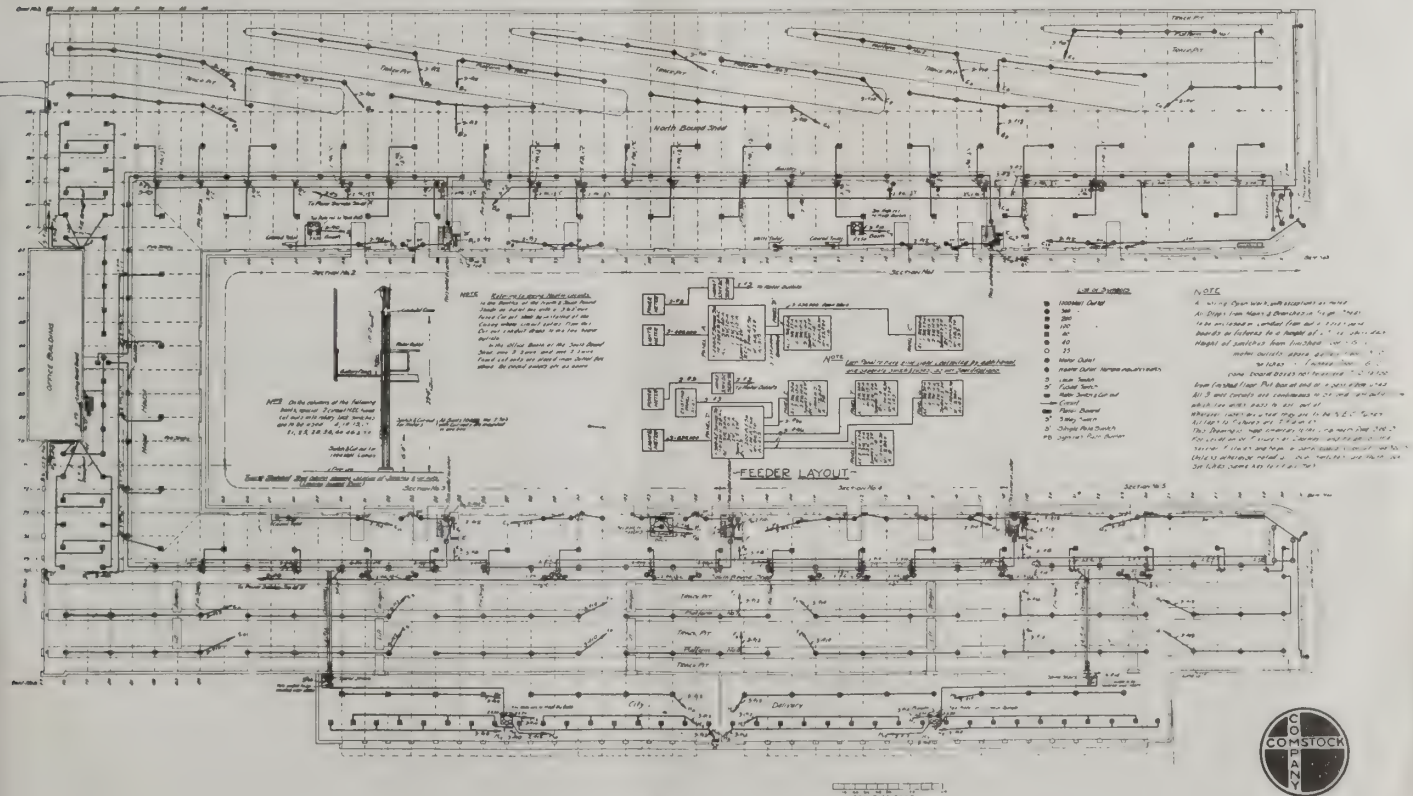

Fig. 3. Wiring Diagram
The service to the building is 110-220 volts, three-wire, sixty cycle, alternating current, for lighting; and 500 volts, two-wire direct current for power. There is very little power used in the building, provision being made for only a few small portable hoisting motors. Figure 3 shows a plan and general wiring diagram of the whole pier. The power line is shown running down each shed. At every column is located a junction box, having mounted therein a small panel with copper bar straps, and easily adjustable terminal posts. The portable outfits are provided with long extra flexible cables, which are connected permanently at one end to the motor starters and can be attached very readily to any junction box temporarily. These junction boxes are installed high up, being accessible from the gallery only, so that the flexible leads can provide quite a large radius, about which the motors may travel, without any of the conductors lying on the floor or interfering with stock or traffic. A fused knife switch, quick break type, with N. E. C. enclosed cartridge fuses, all in a cabinet, is installed on each column, accessible from the floor. This switch and fuses is connected in the line between the mains and the junction panels, so that control can be had from below, where the motor is
operated. The four wires required for the switch, i. e., the mains and leads to the motors, are all run in one conduit between the junction panelbox and the switchboard. This is clearly illustrated in the sectional elevation on the plan, Figure 3. The services are split in halves, one for each shed.
Practically all of the lighting fixtures occur at the under side of trusses, which is shown by the outlet symbols on the plan in Figure 3, the dotted cross lines representing the trusses. These fixtures are made up of conduit stems, hung on a hook and link, with an open hickey at the top. The link is used to allow the fixture to swing, as high winds often sweep the pier. The fixtures are each fitted with suitable sockets and reflectors, of types best adapted for the various cases. A solid tap is made to the circuit wires at the ceiling, to a flexible reinforced cord which is looped down to and into the fixture stem. This can be seen at the truss immediately beyond the gallery in Fig 1. The
The lighting is generally controlled from the panel-boards, except for the 1,000-w. outlets, which are controlled locally by lock switches. By referring to the plan (Fig 3), these can be easily distinguished with the aid of the list of symbols, the fused lock switches, being clearly shown at the column nearest each such outlet. A pair of N.E.C. enclosed fuse cutouts are installed in a box at the points designated. Each of the cutouts is equipped with rotary snap switch and fuses, the switches having a lock and key attachment. The outfit is so mounted in the box as to have the lock attachment set flush with the outer face of the door when closed. Two small apertures in the door expose the operating attachments so that the lights can be thrown on or off with the use of the key, without opening the door. The door, when opened, exposes the cutouts for re-fusing purposes. The various wires to the switches are installed in one conduit, there being seven where two switches are located in one box, i.e., three for the feeds (one switch being connected on each side of the three-wire circuit, balancing the same), and two returning to the ceiling from each switch to its fixture. Where one switch only is located in the box, there are but four wires run down. The typical sectional elevation on plan (Fig 3) shows this very clearly.
It may be noted, as a point of interest, how the railroad tracks and loading platforms in the northbound shed, are arranged. This arrangement allows the handling of quite a few more cars than on the other shed, where the usual scheme is applied. There is a gallery platform running all around the entire pier for the use of passengers, as shown in Figure 3.
the feeder to each individual panelboard. A fused switch and meter is similarly arranged for power. The arrangements made for the other shed are practically identical with this one. The feeder layout in Figure 3 shows the entire system and service from the main panels out.
general three types of heating units have been developed by the manufacturer to cover industrial heating devices not requiring more than 950 degrees fahr. These units are (1) the air heater unit (Fig. 1) the hot plate or cast-in or embedded unit (Fig. 2) and the immersion type unit (Fig. 3). These units are generally of the metallic resistor type, this resistor being of the nicklechrome combination which is free from corrosion in the air at temperatures much in excess of their normal operating temperatures. These units are designed so that they may be used singly or in combination to take care of standard voltage such as 550, 440, 200, 110 alternating or direct current.